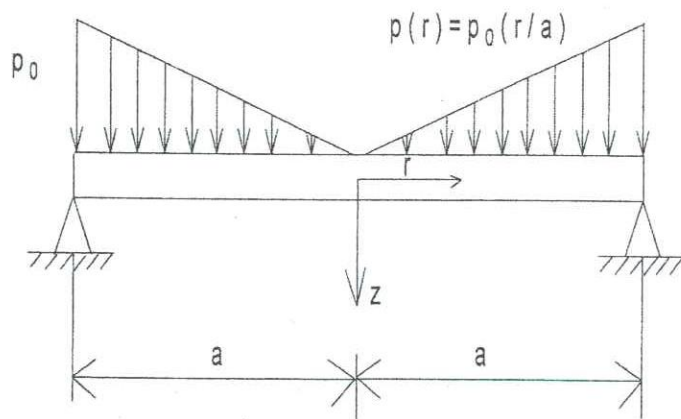

Figure Q3
- b) A flat thin circular plate is used as a bottom of cylindrical tank. The plate is subjected to an internal pressure $p(r)$, which varies according to formula, $p(r) = p_0 \frac{r}{a}$, as shown in Figure Q3.